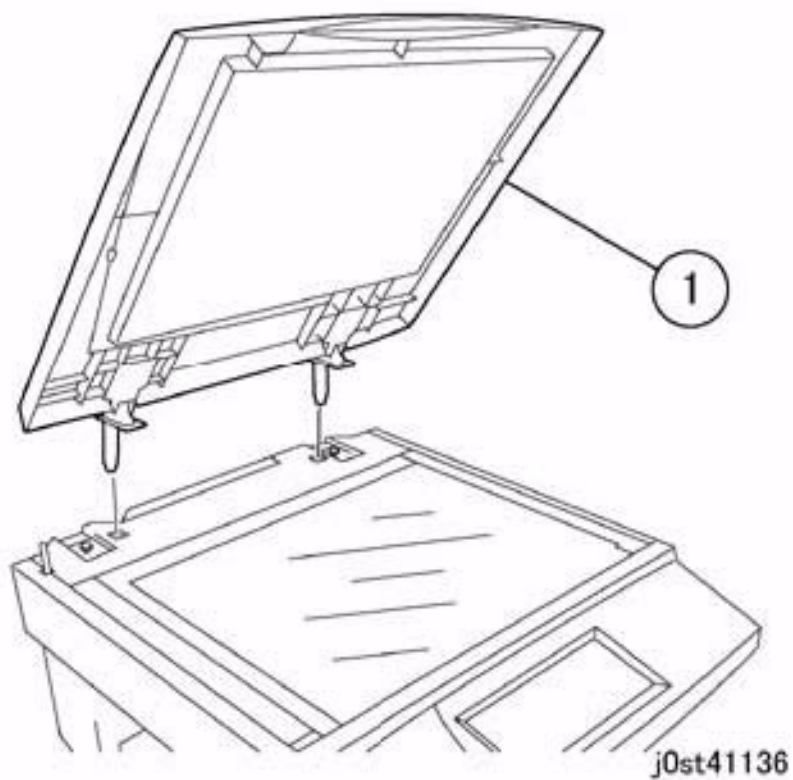

Figure 1 Remove the Platen Cover
1. Remove the Platen Cover. (Figure 1)